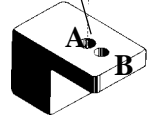

Fig.2
2. Carefully remove the side walls (shaded portion) of the coupler pocket flush with the coupler mounting surface, see Fig.1. Drill through the second hole (A), located approximately 1/8" from the front hole (B), with a #50 drill and tap hole for 2-56 threads. See Fig.2.
4. Assemble the #37 Coupler with the coupler on top and the Torsion Spring on the bottom. Do not use the coupler lid. See Fig.2.